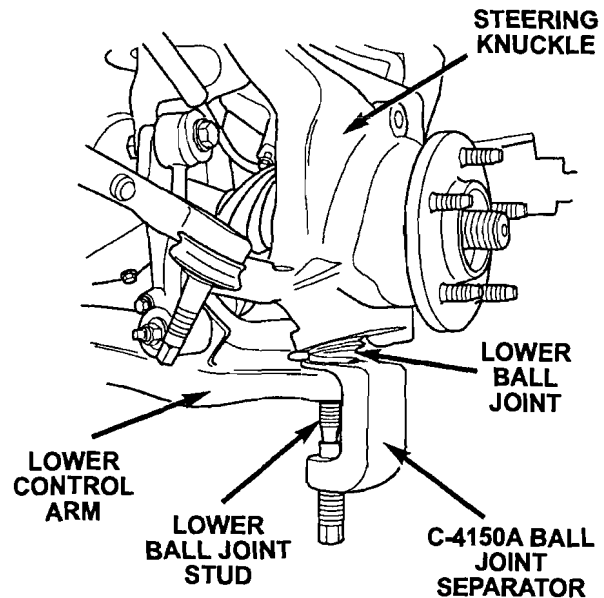

Figure 3
10. Separate the lower ball joint from the lower control arm using special tool C-4150A (Figure 3).